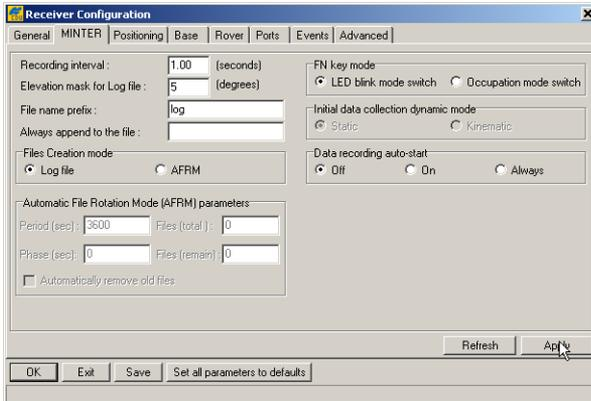

Figure 3-10. Receiver Configuration – MINTER Tab
4. Click **Configuration ▶ Receiver**, and then click the **MINTER** tab. Set the following parameters, and click **Apply** (Figure 3-10). See the following pages for parameter descriptions: